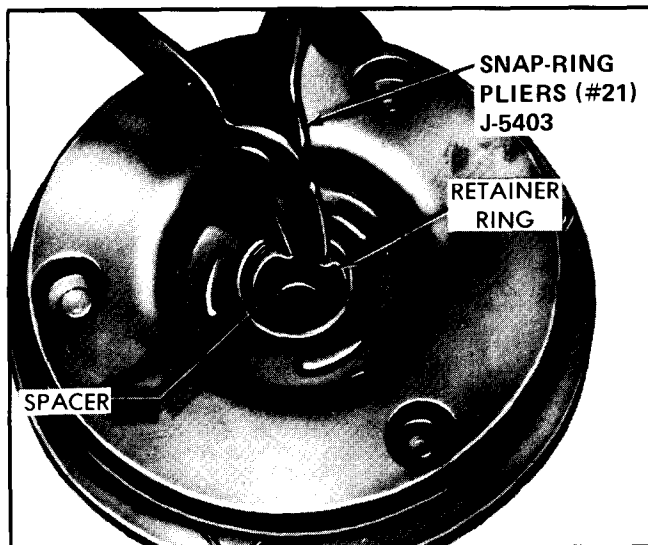

Figure 44—Removing or Installing Retainer Ring in Clutch Drive Plate
5. Remove hub spacer retainer ring using Snap-Ring Pliers J-5403(#21), and then remove hub spacer (figure 44).